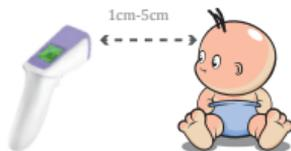

Figure 2: Measuring position and distance
- The thermometer is aligned with the middle of the forehead to measure body temperature between the eyebrows above and keep the vertical distance, press the On/scan button, temperature will display immediately, see figure 2.
| | Incorrect test position. | See figure 2 Measuring position and distance. |